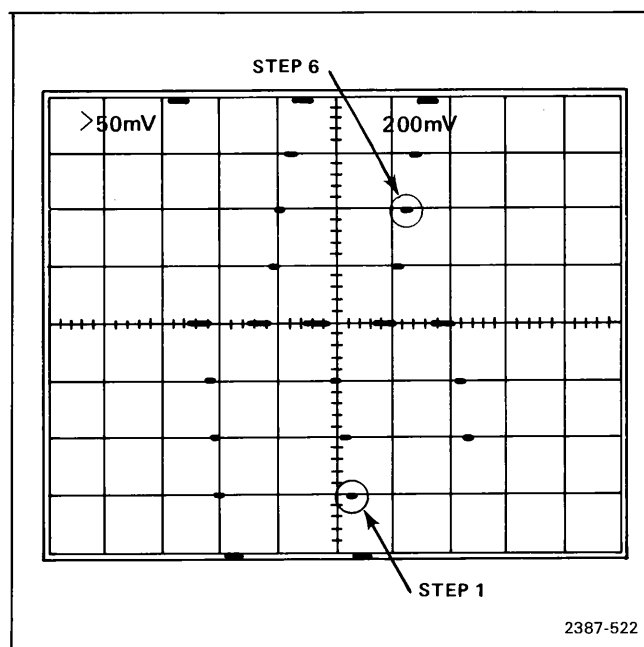

Fig. 5-21. Display of staircase waveform with its top and bottom steps set to the top and bottom graticule lines.
- f. Move the left vertical 7A16 Variable Volts/Div control to set the top staircase step at the top graticule line. See Figure 5-21.
- i. **CHECK**—that each of the marks from -3 divisions to $+3$ divisions aligns with the appropriate graticule line (see Fig. 5-21).
- j. Use the left 7A16A Position control to align the first stairstep with the first graticule line (see Fig. 5-21).
- k. **CHECK**—that the sixth step aligns with the sixth graticule line, $+$ or $-$ 0.1 division (see Fig. 5-21).
- l. **ADJUST**—Gain (R612) while repeatedly pressing the ARM button so that the middle six stairstep steps align with the graticule lines. See Figure 5-21.